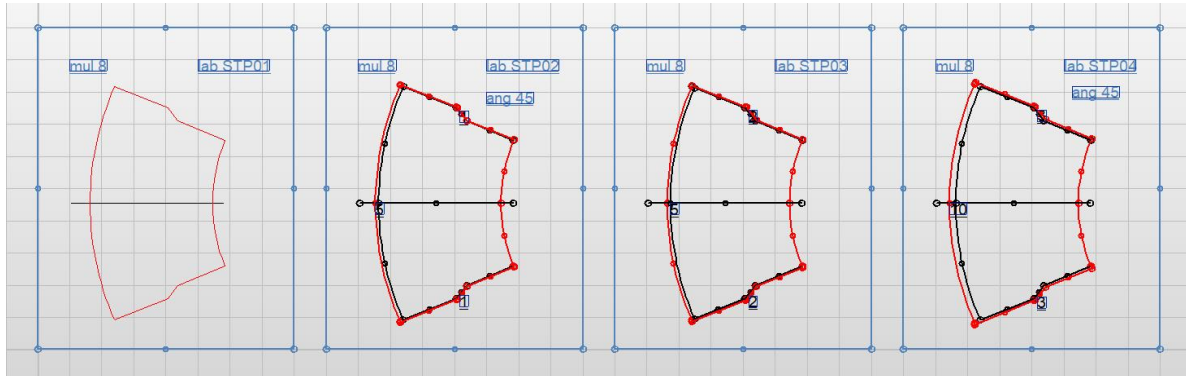

Figure 88
4. **DELETE:** Now select all objects except of our base geometries (Figure 88) and delete  (shortcut **-DEL-**) them.